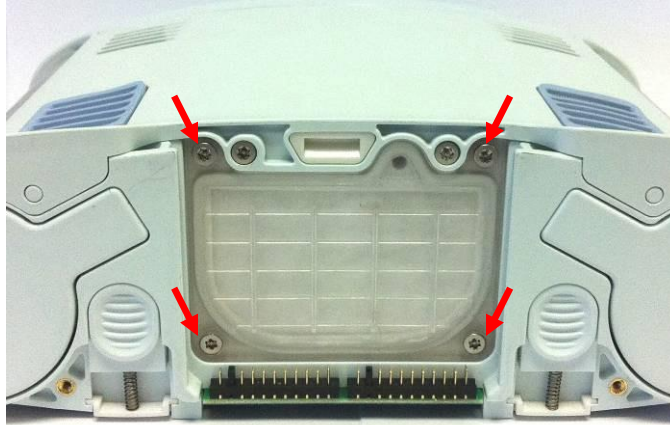

Figure 2: Filter box lid screws
2. Lay the unit on its back side. Unscrew the four screws that attach the filter to the filter body and remove the filter from the device (Figure 2). Use a small flathead screw driver to separate the filter from the chassis, if necessary.